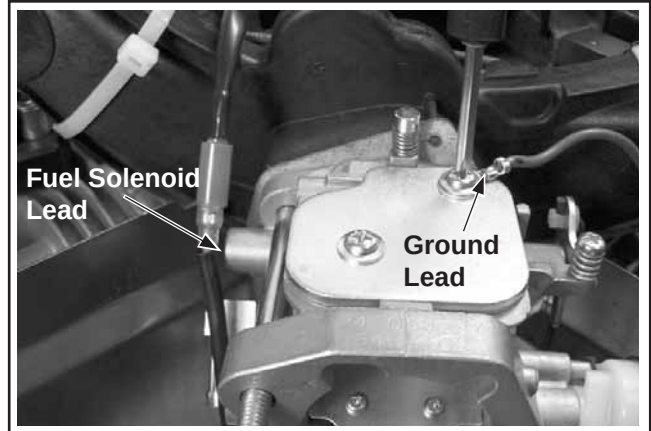

Figure 10-67. Connecting Fuel Solenoid and Ground Lead.
3. If the carburetor is equipped with a fuel solenoid, connect the red (power) lead. Attach the eyelet terminal of ground lead to the inner top carburetor cover mounting screw. See Figure 10-67.